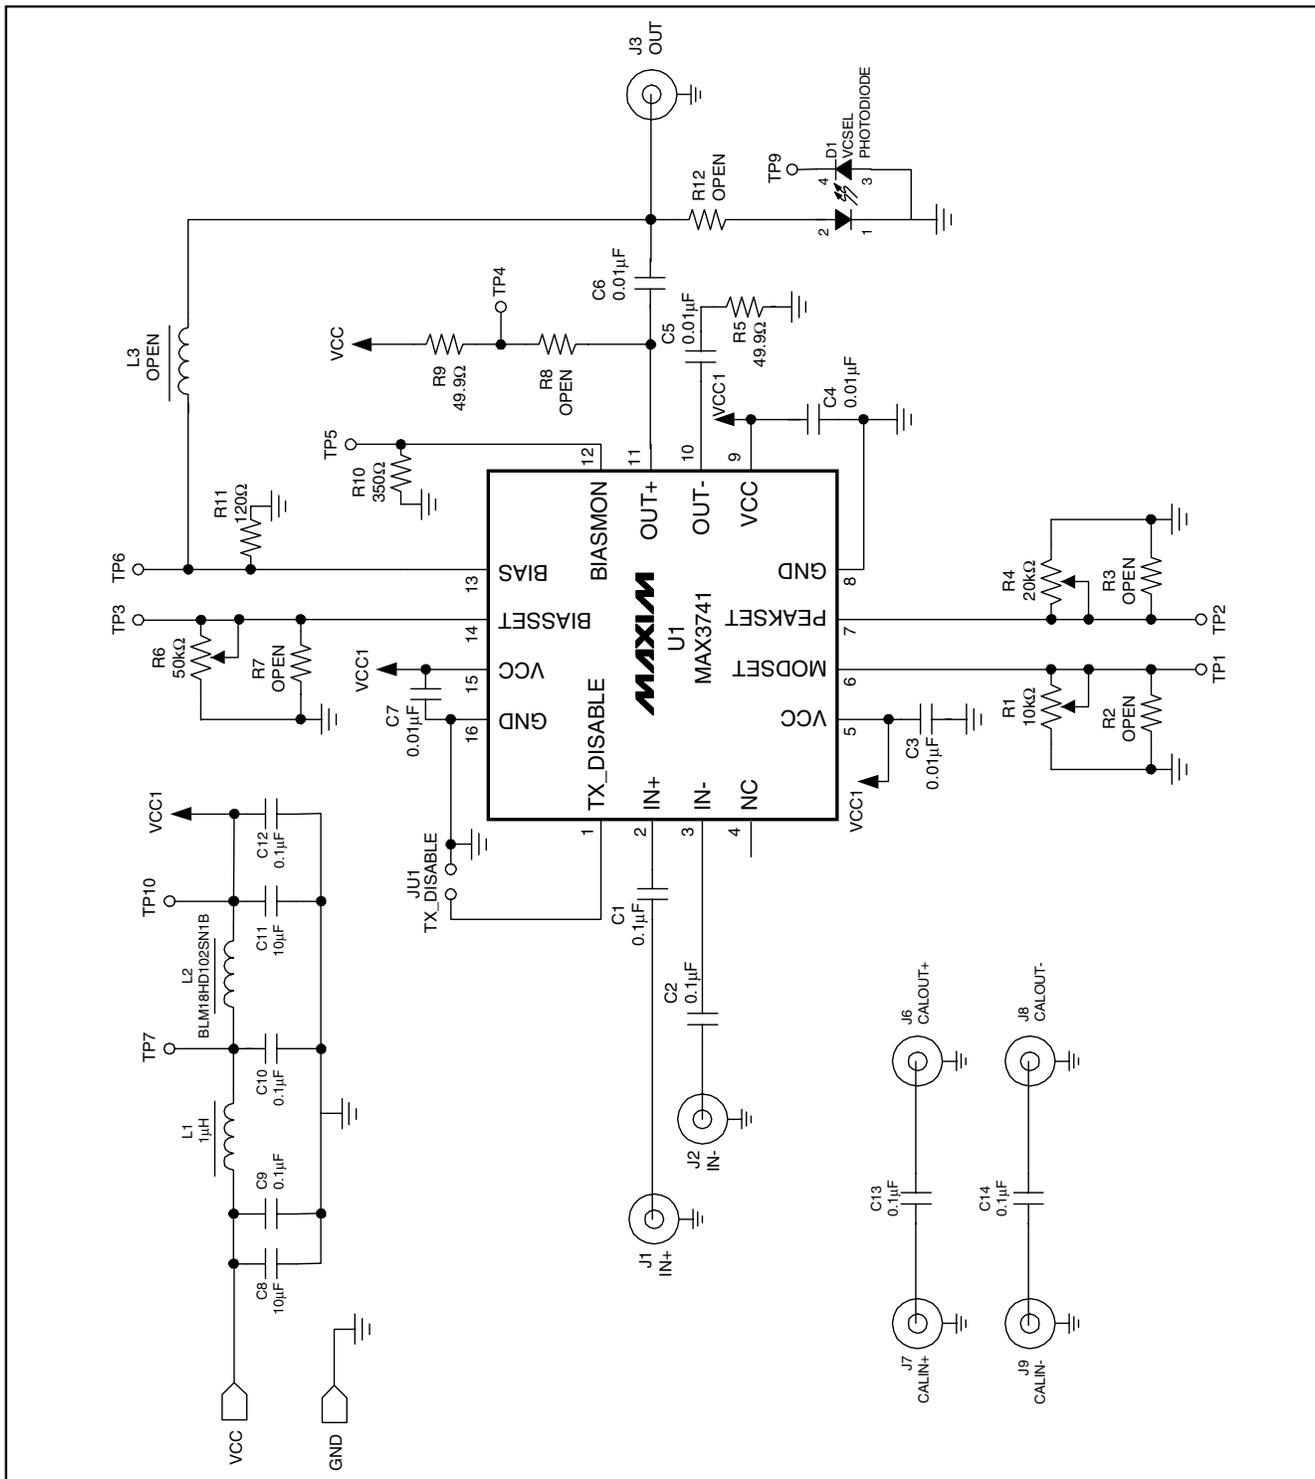

Figure 1. MAX3741 EV Kit Schematic
- 4) Connect a common-cathode VCSEL as shown in Figure 1. Keep the leads short to reduce reflection.